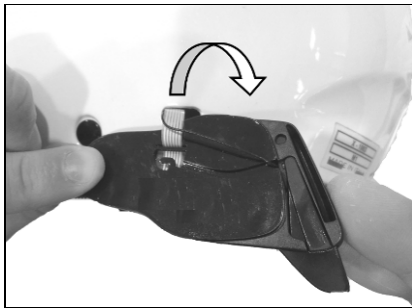

Fig. 36
- Remove the keypad support from the helmet shell (Fig. 36);